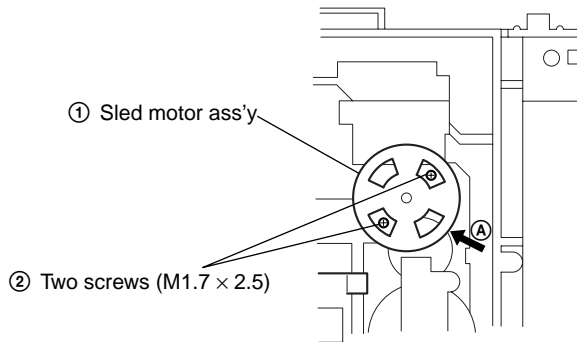

Fig. 4
- 1) Push the sled motor ass'y ① toward direction ①A. (See Fig. 4)
- 2) Tighten two screws ② (M1.7 × 2.5).